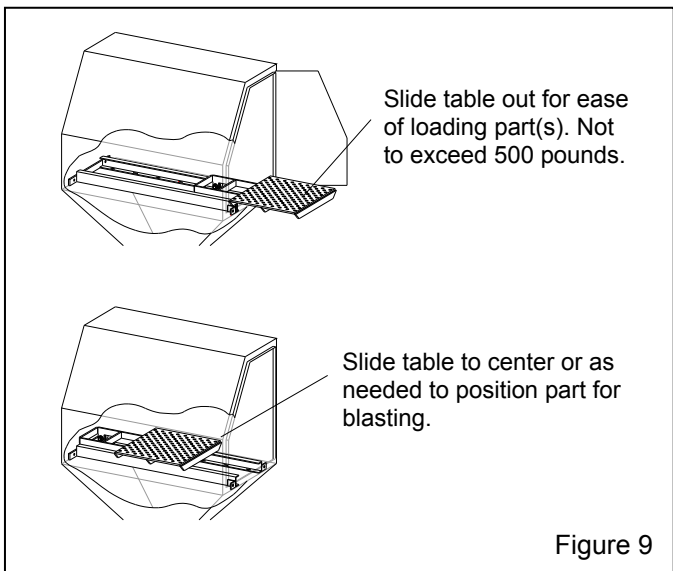

Figure 9
3.5.1 Components of track and table assembly are shown in Figure 9. The assembly consists of: